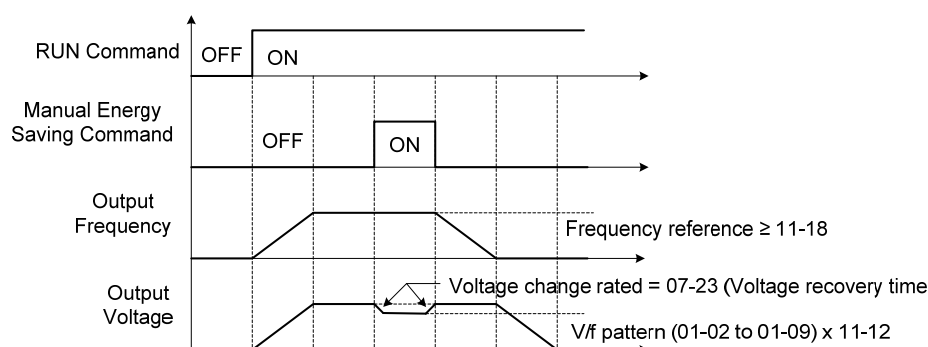

Figure 4.3.88 Manual energy saving operation
(2) Manual energy saving frequency (11-18)
- . When the reference frequency is greater than 11-18 and the motor speed is within the allowable range, the command of manual energy saving is enabled. Refer to the figure 4.3.88 for manual energy saving operation.